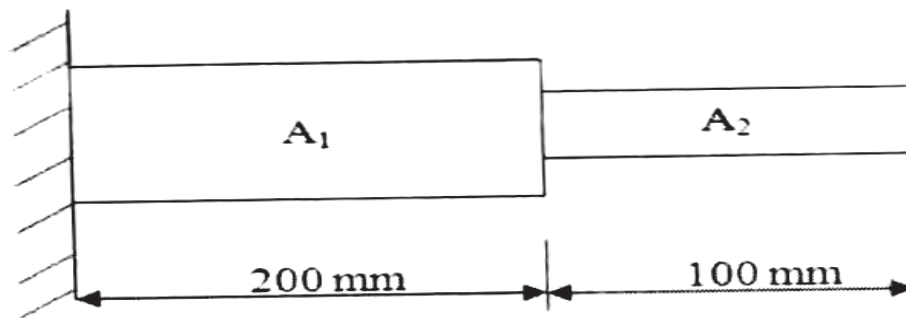

Figure 6
- b) Find the un-damped natural frequencies of longitudinal vibration of the stepped bar as shown in Figure 6 using consistent mass matrices. Given: Elastic Modulus  $E = 200 \text{ GPa}$ , Area  $A_1 = 400 \text{ mm}^2$ ,  $A_2 = 200 \text{ mm}^2$ , Density  $\rho = 8000 \text{ kg/m}^3$ . [8]